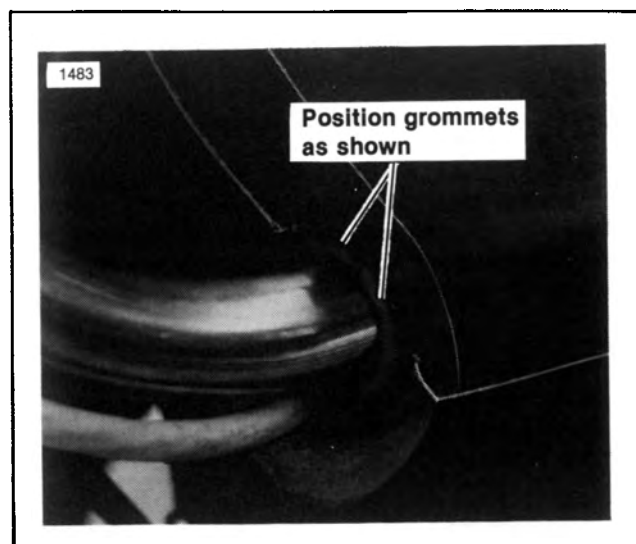

Figure 2-119. Handlebar Grommets
15. Install instrument panel head case and position it to fit between lips of grommet (Figure 2-119). Be careful not to scratch paint on housing during installation.